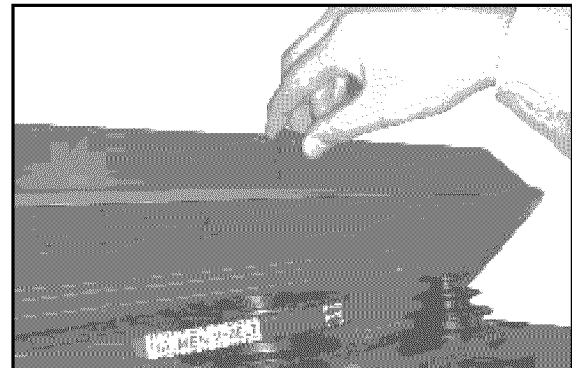

Figure 7
6. To install the belt cover handle, open the belt cover and insert the Phillips head screw through the hole in the center from the inside. Thread the handle on the outside of the belt cover and tighten with a screwdriver (Figure 7).